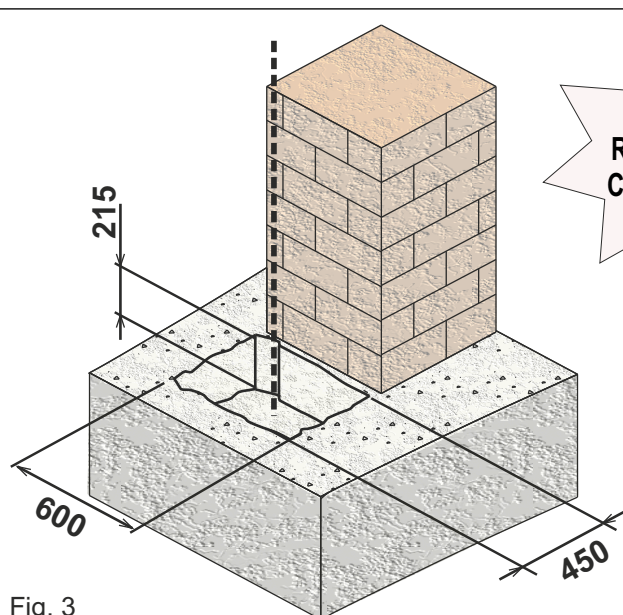

Fig. 3
- 2.1. Based on the measurements shown in Fig. 3, prepare an excavation inside which the foundation box will be cemented